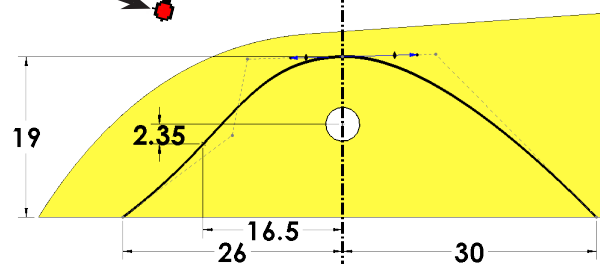

Fig. 84
Step 19. Dimension as shown in **Fig. 84**.